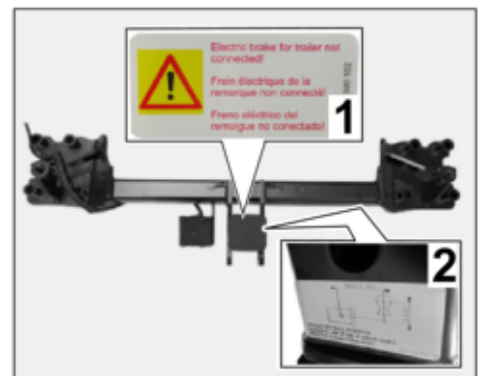

Figure 16
2.7.2 Affix sticker showing the warning "Electric Brake for Trailer not connected" on a clean surface at a clearly visible position next to the "Ball Position" sticker or the dashboard ⇒ *Figure 16*.